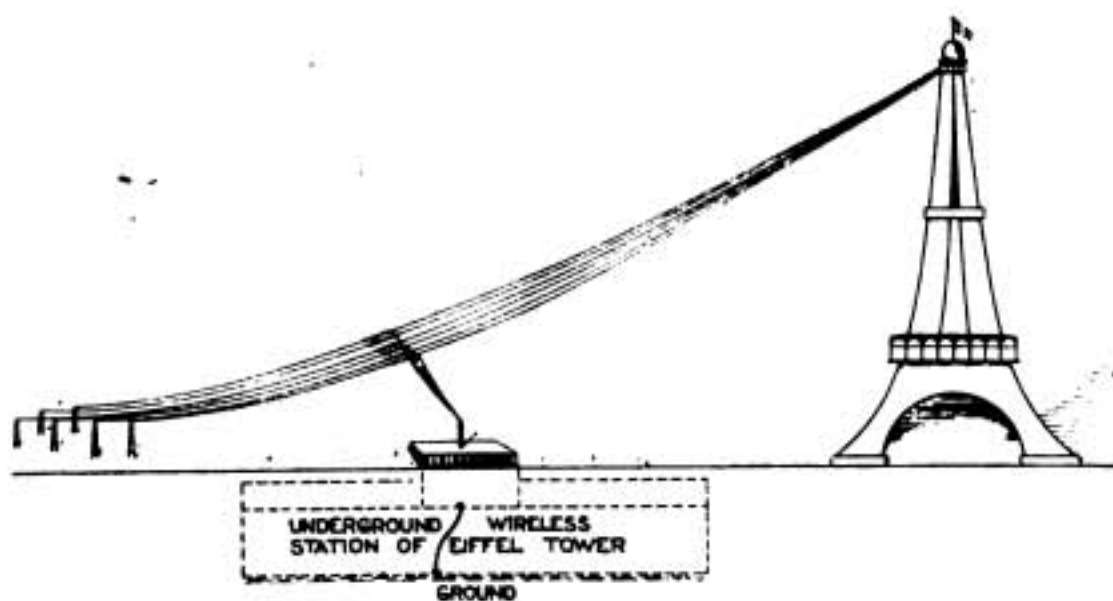

Fig. 9. Arrangement of the Antenna at Eiffel Tower.
The antenna used is the large one of the Eiffel Tower, consisting of 6 galvanised steel cables fixed at the top but insulated from one another. They are led down like the guy ropes of a tent, and joined together where they enter the post (Fig. 9). The antenna capacity is 0.007 microfarads, and its natural wavelength about 2,000 metres. The earth consists of a large number of zinc plates buried under the station and having a total surface of 600 square metres. The antenna switch for the triode set is controlled electrically by a button (42). If by mistake the operator passes to the receiving position while the set is still trans-